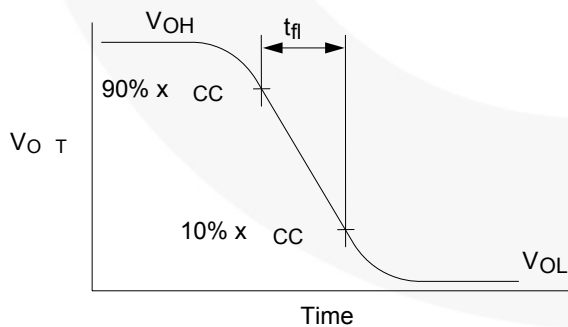

Figure 7. Active Output Fall Time
- 9. See Figure 7.
- 12. See Figure 7.